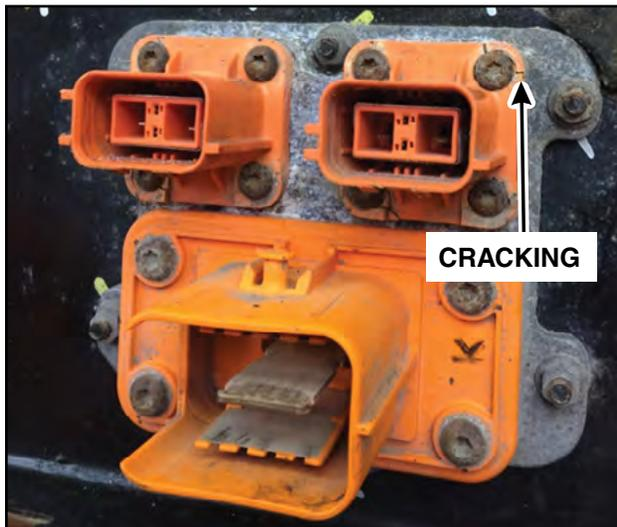

FIGURE 1a
2. Inspect the three connectors on the LH side of the high voltage lower battery for cracking. See Figures 1a and 1b.